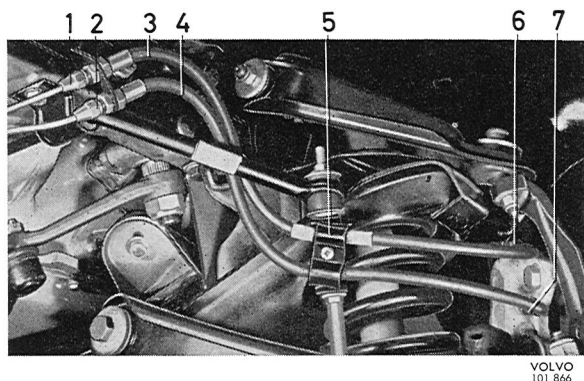

Fig. 5-19. Front brake hoses
3. Remove the clip (5, Fig. 5-19). Disconnect the connection (2) and the lower hose (4) from the bracket. Place some kind of protective casing on the brake lines to prevent unnecessary leakage. Disconnect the connection (6) for the upper hose from the brake.
2. Install the hoses and their connections as well as the guide clip, see Fig. 5-19. It is important that the hoses are installed correctly, that is, without being tensioned and with the control arms off-loaded. Remove the plug for the vent-hole in the brake fluid container cover.